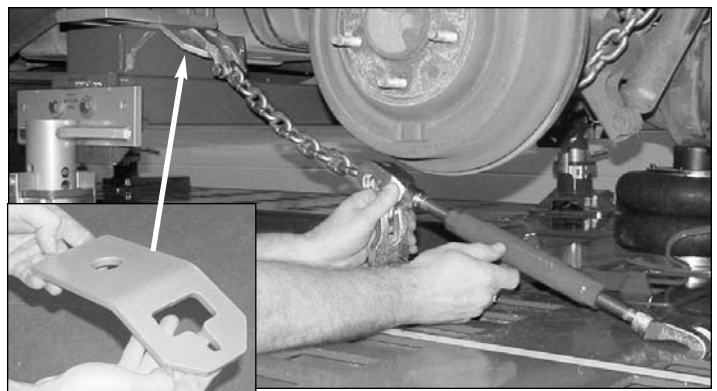

Figure 19
- If a 3 inch riser bar is used, install tie down chain and turn-buckle assist to support the assembly. Secure the tie down chain to the tie back bracket. (See example - Figure 19. Inset shows close up of tie back bracket.)